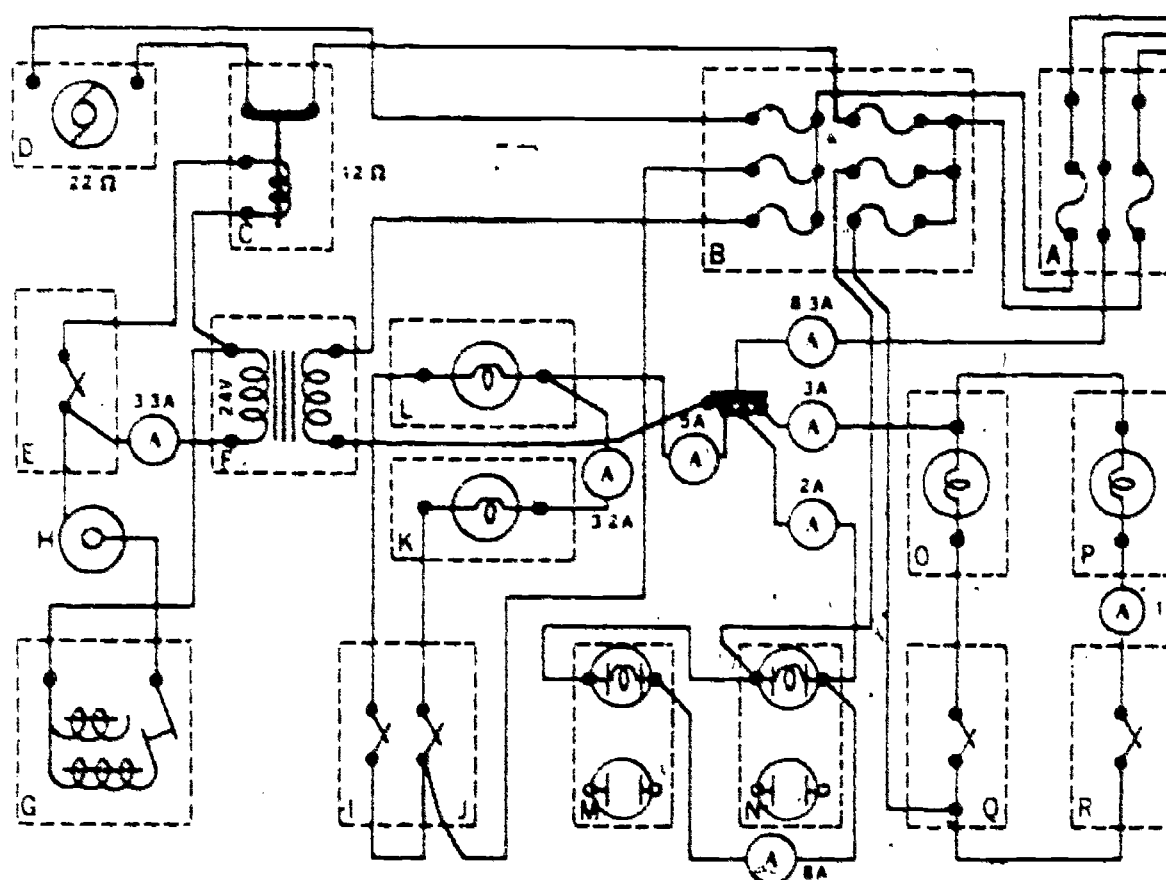

Figure 28. 208-V, 60-Cycle, Single-Phase Circuit
1. Use information in figure 28 and circuit characteristics to answer the following questions.